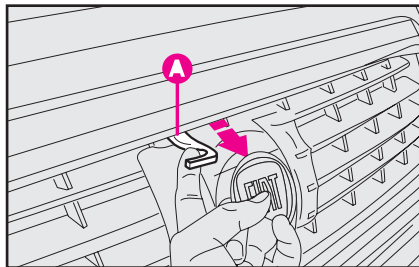

fig. 134
3) Pull the lever **A**-fig. 134, as shown in the figure.